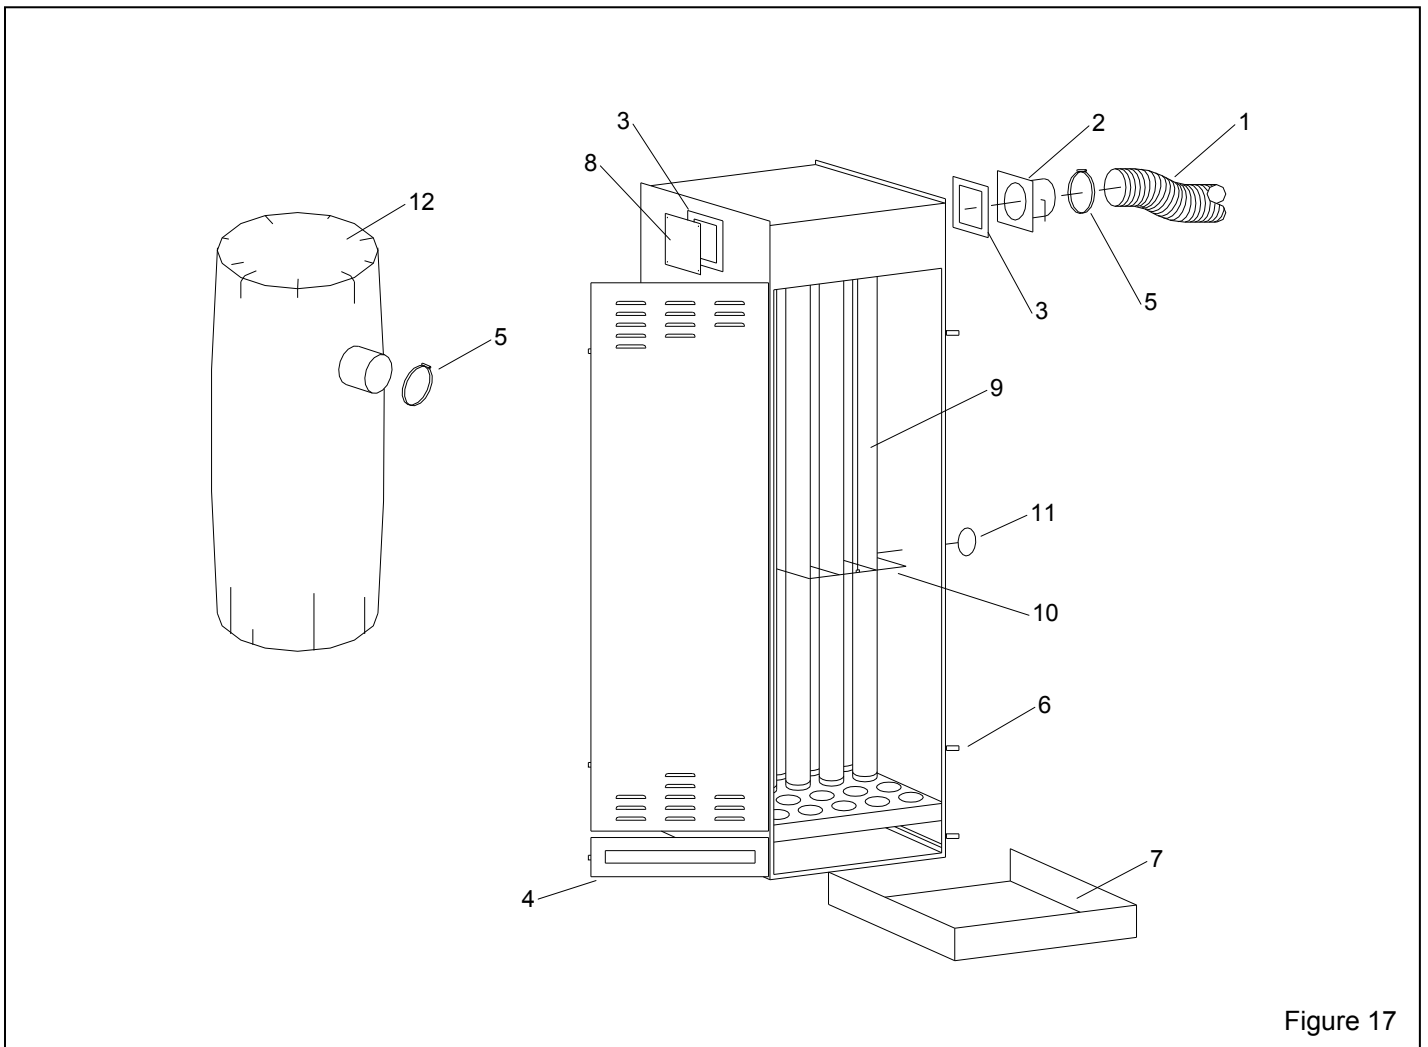

Figure 17
**9.9 Dry Filter Dust Collector and Dust Bags, Figure 17**